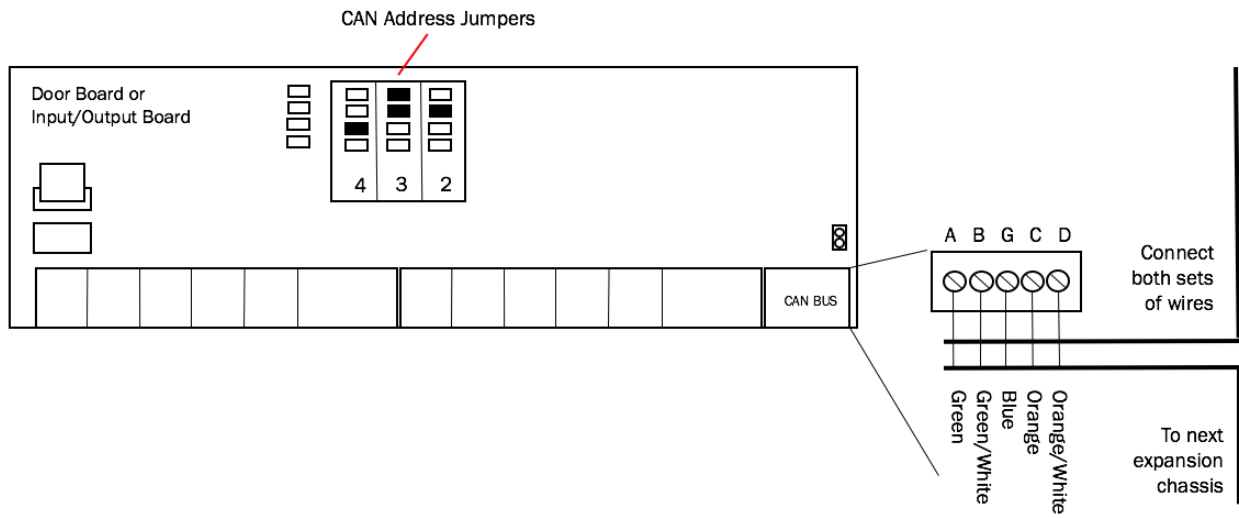

Figure 21 - Wire INPUT OUTPUT BOARD
- e) The other wire from the ACS6000 is connected to wire 2 from the switch, as shown in Figure 21.